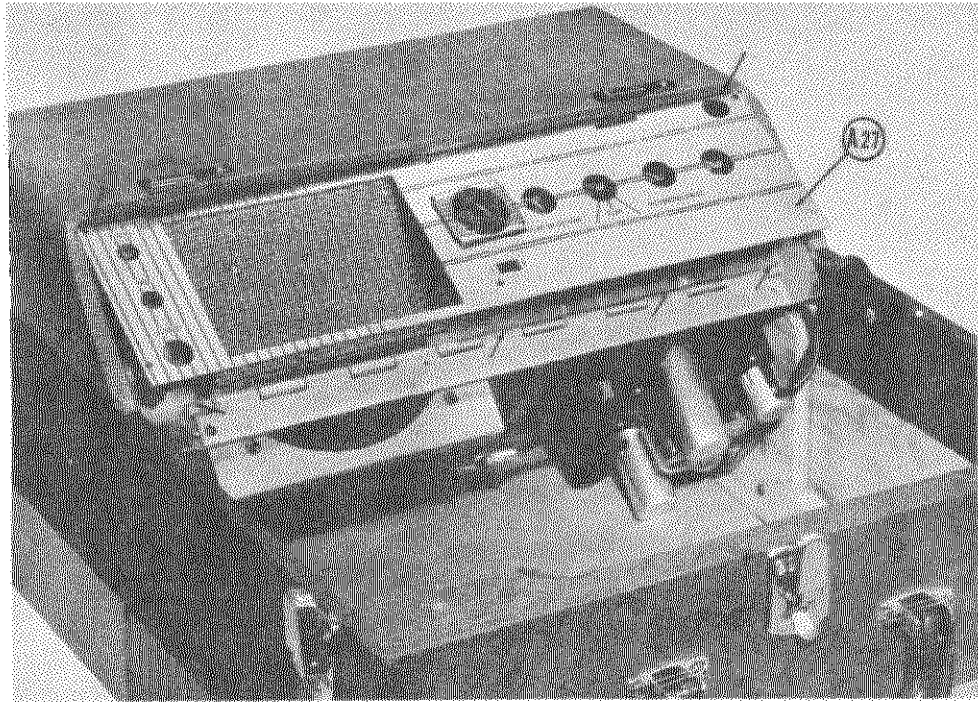

Fig. 47—Disassembly Step No. 8
8. Carefully remove the trim panel (A-27, Fig. 47). Note: Some trim panels fit very snugly between top of case and edge of hinge at points
shown by arrows, in Fig. 47, and may require a slight amount of prying at these points to lift the trim over the edge of the hinge. Be careful in prying not to bend or damage the trim panel.